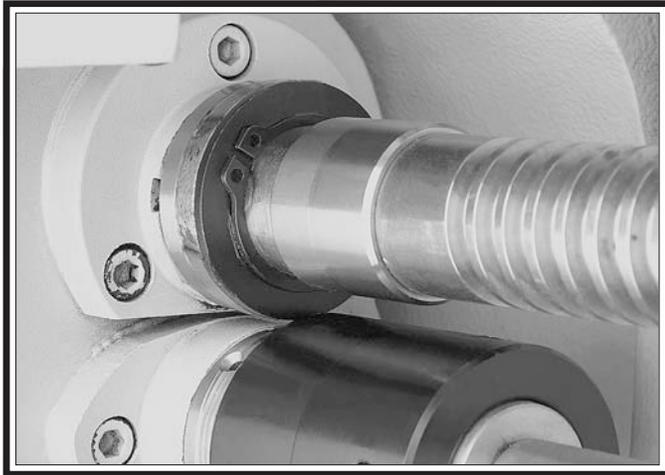

Figure 138. Retaining ring positioned with ears in front of pin access groove.
11. Return the retaining ring against the shroud washer and position the retaining ring ears over the shear pin head, as shown in **Figure 138**. This will prevent the shear pin from falling out if the shroud washer should rotate during operation.